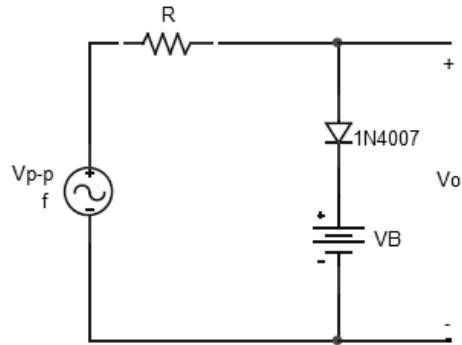

Figure 8 Practical Clipper Circuit
1. Connect the circuit as shown in Figure 8.